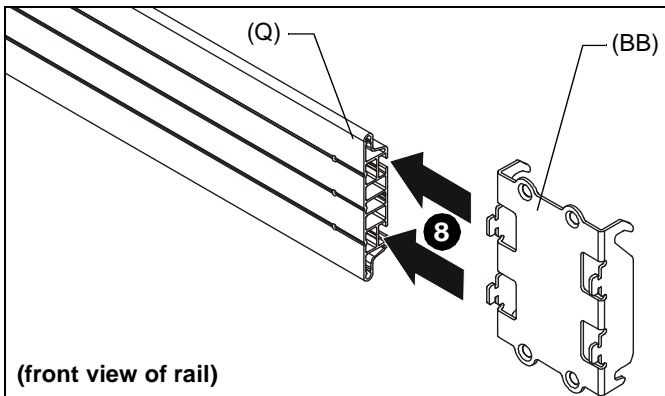

Figure 15
8. Slide height adjust plates (BB) into open end of mounting rail (Q). (See Figure 15)
- LWM2X1/LWM3X1: Insert two plates (BB)
- LWM4X1/LWM5X1: Insert three plates (BB)